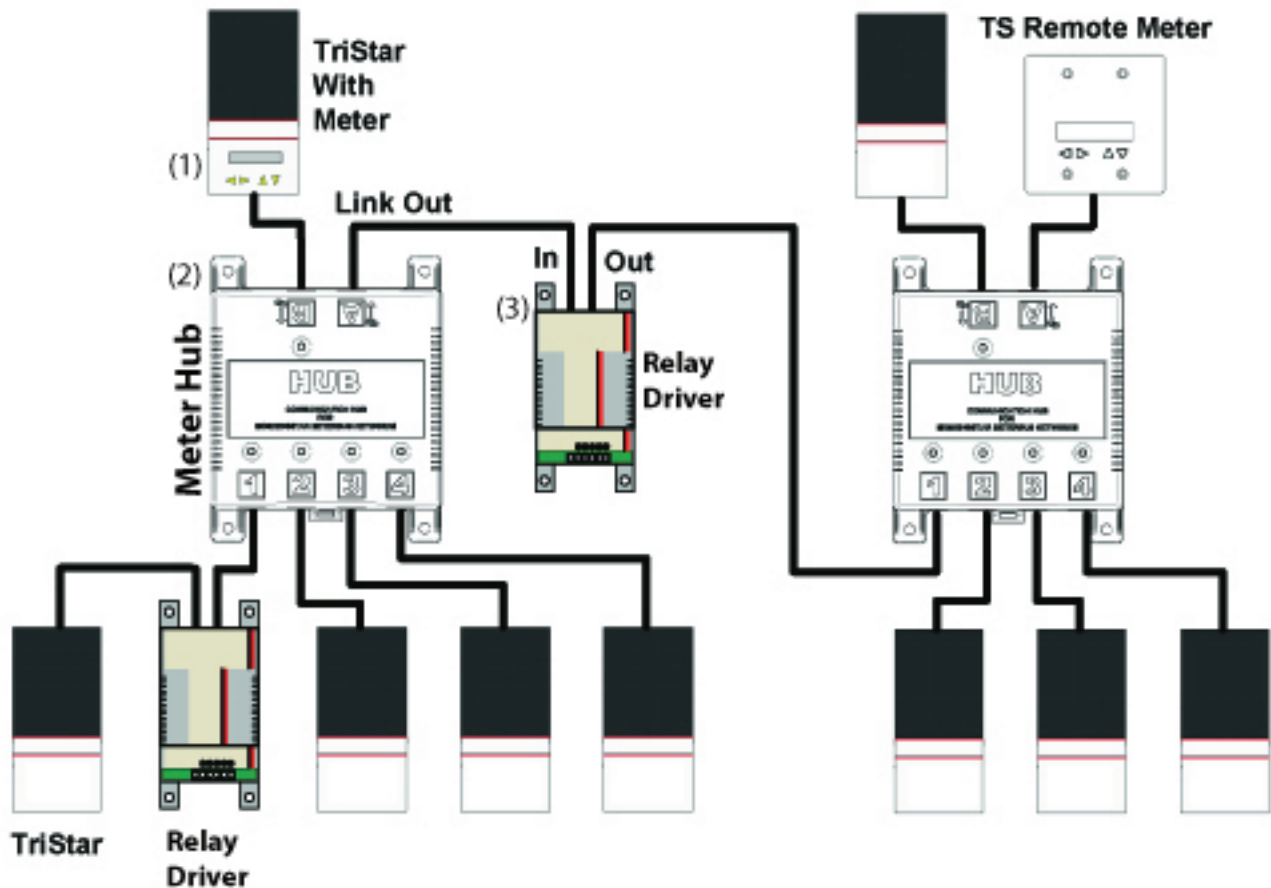

Figure 21. Morningstar MeterBus™ Large, Multiple Hub Network Diagram 2
Device power requirements will sometimes call for a network setup as illustrated in Figure 21. This multiple hub network connects hubs in a different manner than in Example #4. Since the TriStar (with Meter) can only power up to three devices (Meter, Hub, Relay Driver - denoted 1 through 3 in the diagram), the output link of the Relay Driver cannot be connected to the input of the second hub. Another unit that provides power (i.e. TriStar) is used to power the second hub and TS Remote Meter. To network the two hubs, the output link of the Relay Driver (3) is connected to one of the isolated ports on the second hub.
Figure 21 illustrates only one example of the way these 14 units can be networked together.